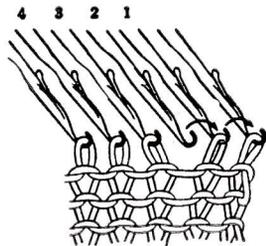

Fig. 49
- a. Simply pull out one needle from the resting position (A) on the side which carriage rests.
- a. Use 2 needles transfer tool, move the 1st stitch to the neighboring outside empty needle and move the 2nd stitch to the 1st needle. (See Fig. 49)
Now the 3rd needle from the end becomes empty. (See Fig. 49)